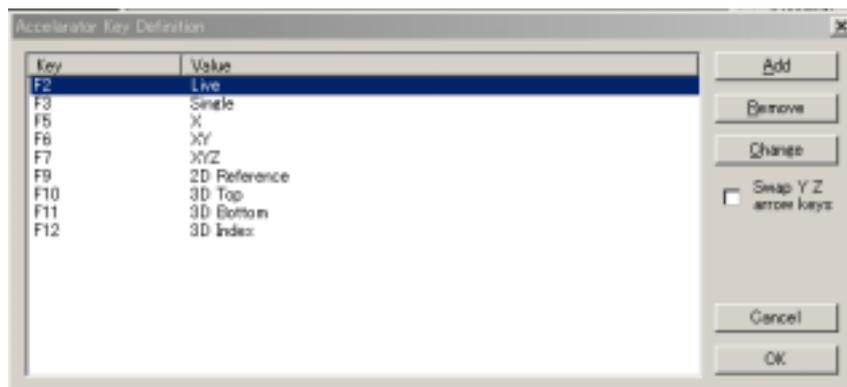
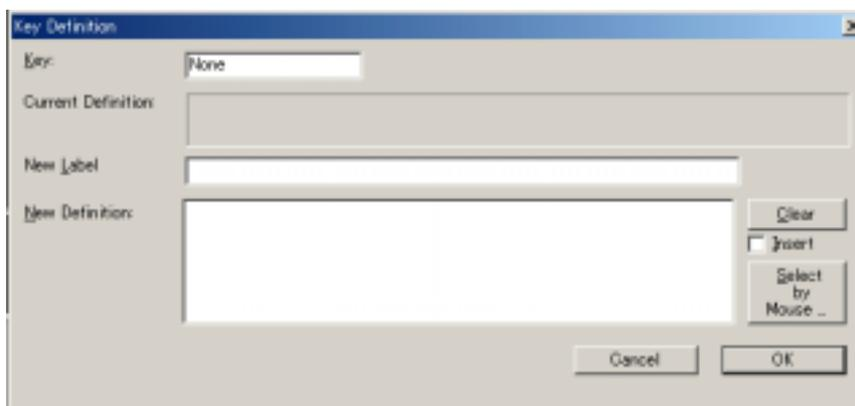

Figure 15 Accelerator Key Definition dialog box
Figure 16 Key Definition dialog box
Select “Keys” command on the “Configure” menu to display Accelerator Key Definition dialog box (Figure 15). This dialog box allows assigning actions to accelerator key combinations. The dialog box lists all defined key strokes with a short description of the action programmed. Select one of the items and press Delete key to delete the definition. To add or change an accelerator key definition, press the [Add] or [Change] button to show the Key Definition dialog box (Figure 16). Checking the “Swap YZ arrow keys” alternately switches the definition of cursor keys used to move the cursor and the crosshairs. (The crosshairs or cursor is moved in y-direction with the Page Up and Down keys and in the z-direction with the up and down cursor keys (↑ ↓).)
The Key Definition dialog (Figure 16) allows for changing or adding new key accelerator definitions (§ 2.2.2).
**New Label:** In this field, set the value that is displayed in the Accelerator Key Definition dialog box (Figure 15).